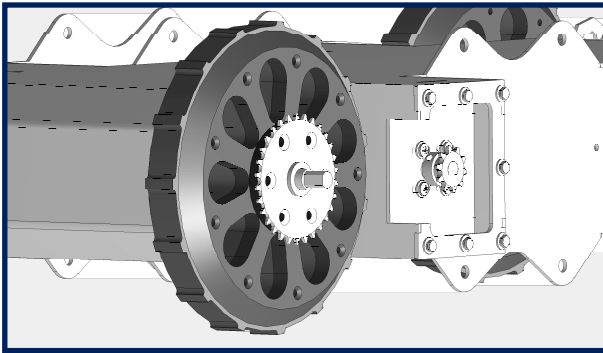
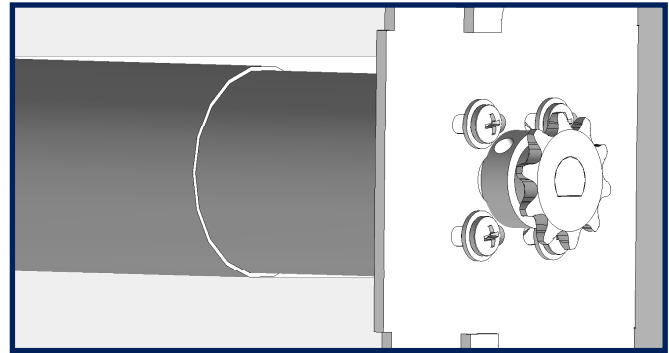

FIGURE 3A
FIGURE 3B
- Tighten the set screw. Refer to **Fig 3A** and/or **Fig3B** for placement of the sprocket on the motor shaft.
1. Place the drive wheels in the front and back. The chain sprockets should be positioned outside of the wheel. Refer to **Fig 3A/B**.